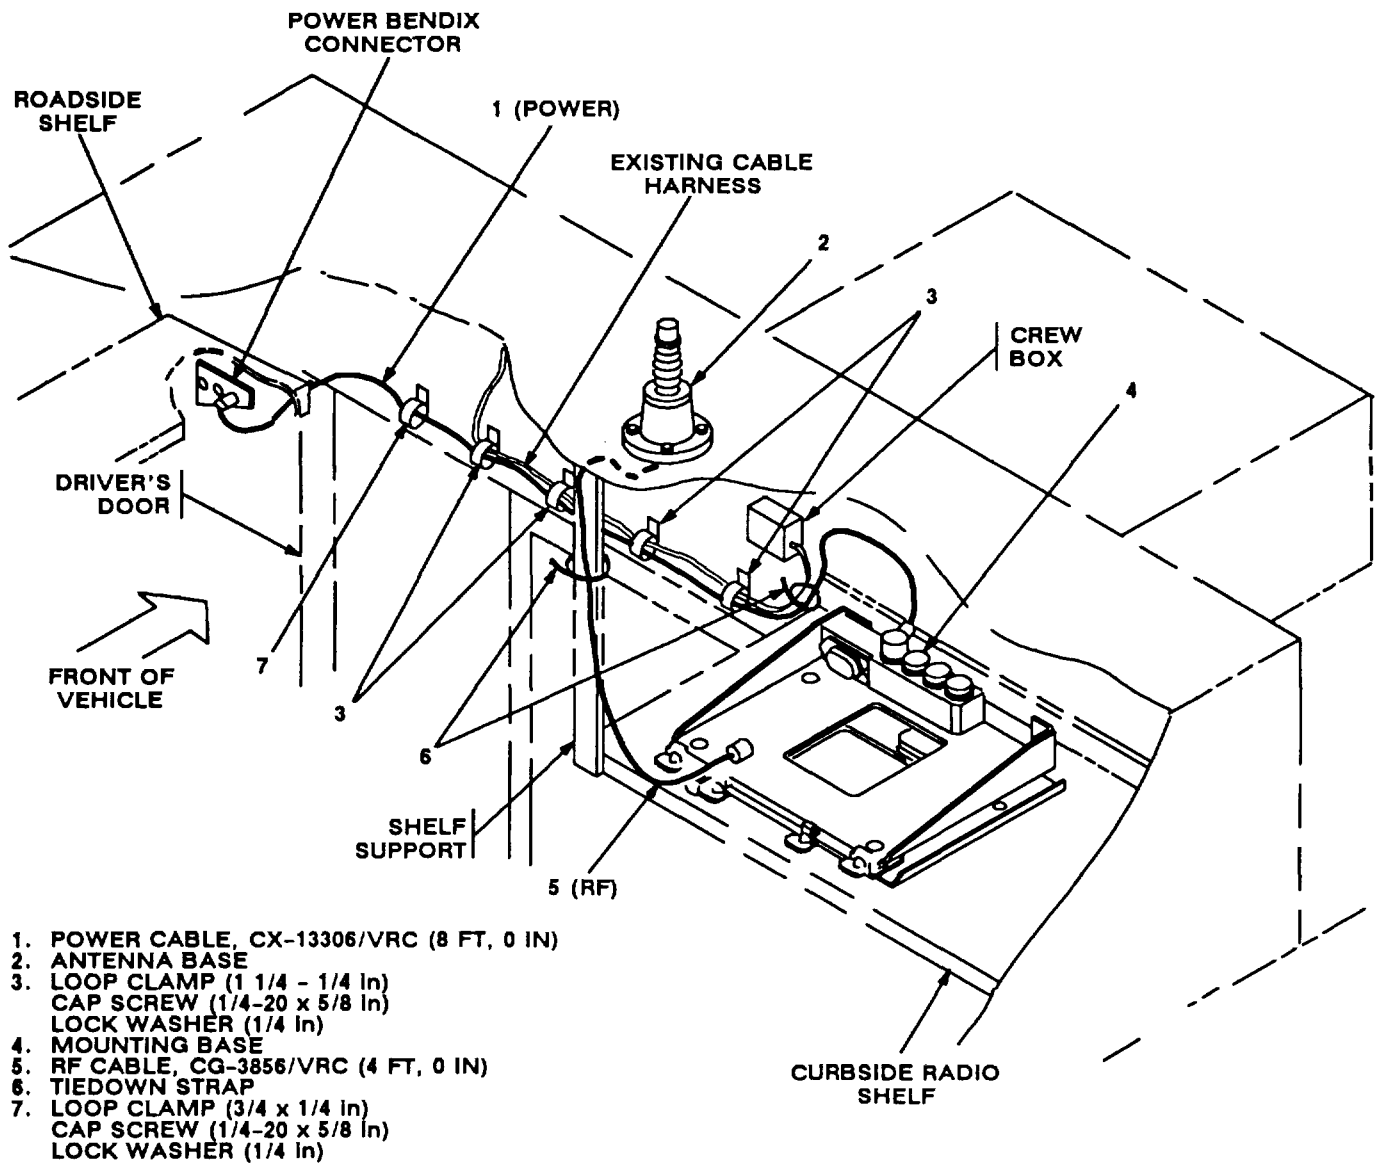

Figure 5-5. Cable Installation: Forward Wall
| a. Power cable (1) connector P1. | Connect and secure to power Bendix connector. See figure 5-5. | |
| c. Power cable (1) connector P2. | Position on top of mounting base (4). See figure 5-5. | |
| d. Four loop clamps (3), four cap screws (1/4-20 5/8 in) and four lock washers (1/4 in). | Wrap clamps around power cable (1); then install to existing cable harness. See figure 5-5 for location(s). | Tools: 7/16 in socket. |
| f. RF cable (5) connector P1. | Connect and secure to antenna base (1) connector J1. See figure 5-5. | |
| i. Tiedown strap (6). shelf support. See figure 5-5 for location (s). | Install loosely around RF cable (5) and | |
| k. Power cable (1) connector P2. | Connect and secure to mounting base (4) connector J1. See figure 5-5. | |